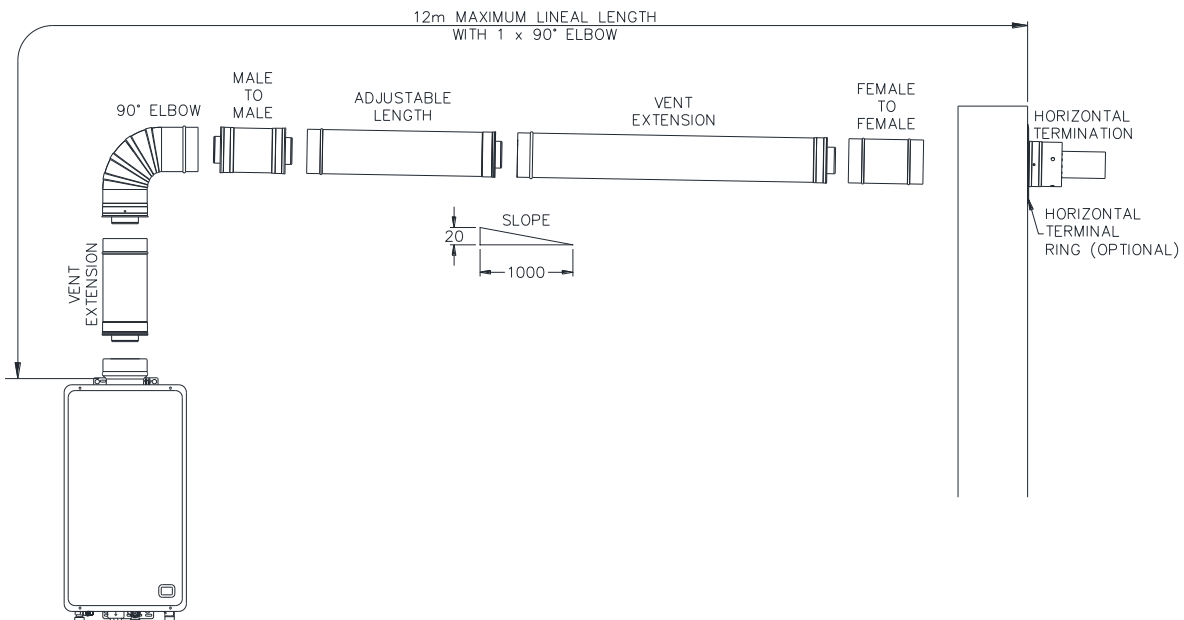

Figure 19- Typical Installation – Horizontal Terminal with One Elbow
- Use Male to Male and Female to Female Adapters to reverse the direction of flue insertion where three or more sections of flue are used in a horizontal flue run and the flue drains toward the flue terminal. Refer to Figure 19- Typical Installation – Horizontal Terminal with One Elbow on page 31.